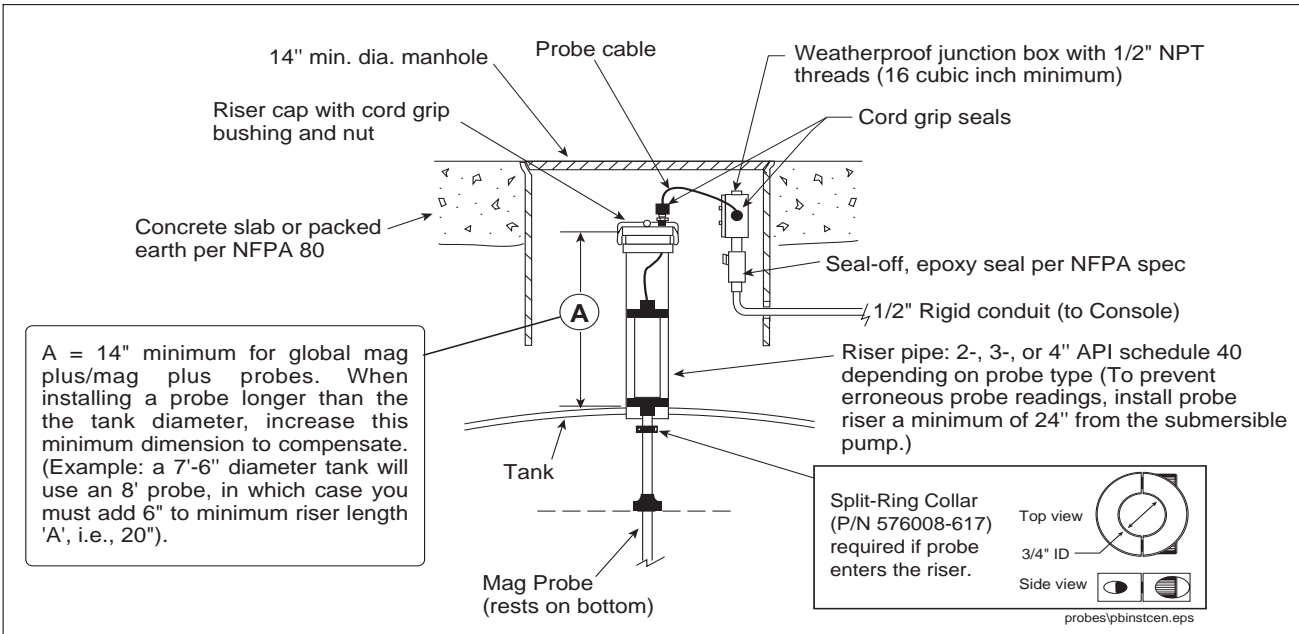
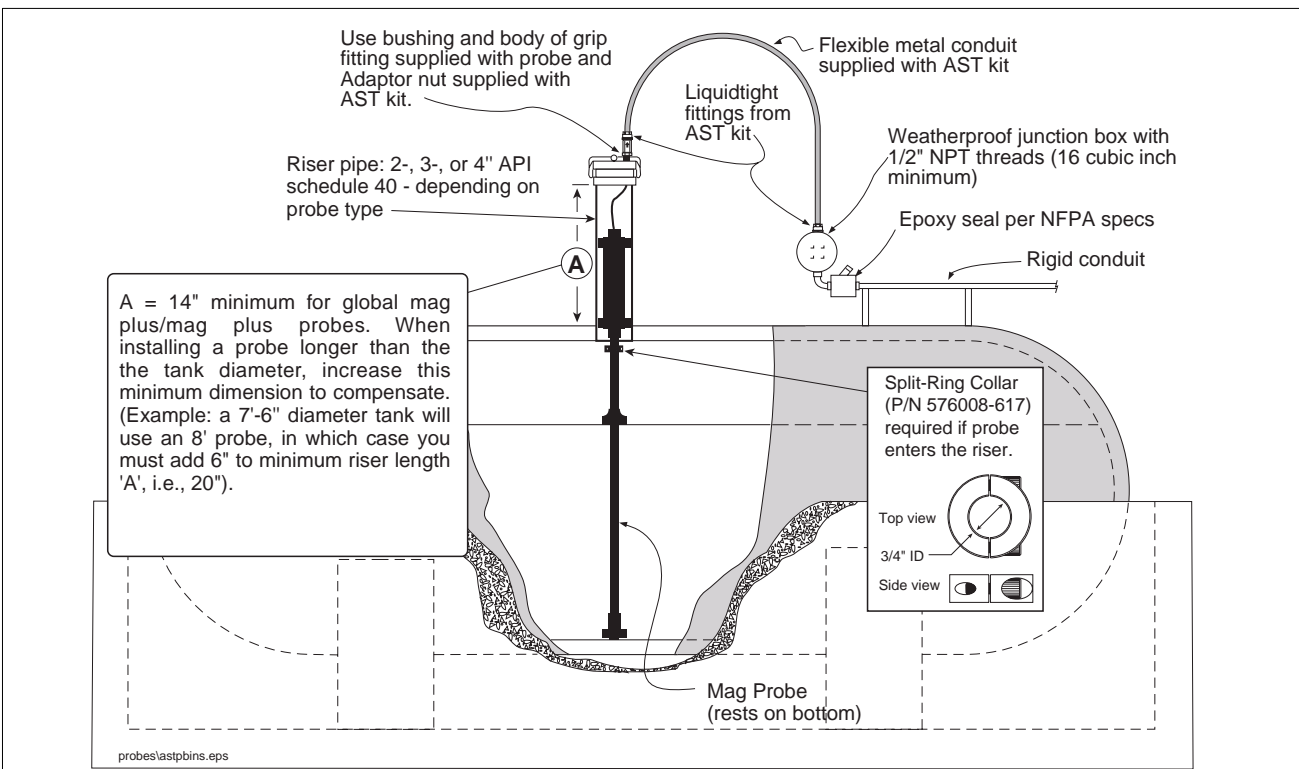

Figure 7. TLS-50 Probe Installation Example - Underground Storage Tank
Figure 8. TLS-50 Probe Installation Example - Above ground Storage Tank
4. Gently slide the float(s) to the bottom of the probe shaft before raising the probe. Carefully lower the probe into the riser pipe until the boot rests on the bottom of the tank [See Figure 7 for UST installation or Figure 8 for AST installation].